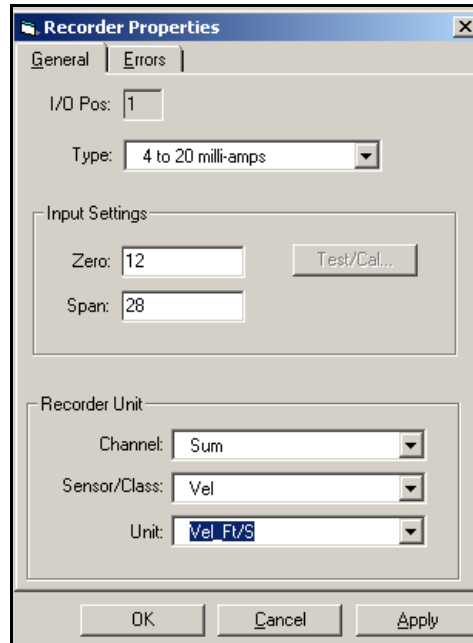

Figure 49: Recorder Properties
4. Double-click on Recorder 1 or Recorder 2 to bring up the Analog Output properties window. Under the General tab, select the desired option from the Type drop-down menu (see *Figure 49 on page 61*).
- Set the Zero and the Span to the desired values. In the Recorder Unit section, select the desired output for Channel, Sensor/Class and Unit. Click on Apply. The window should look similar to *Figure 49* below.